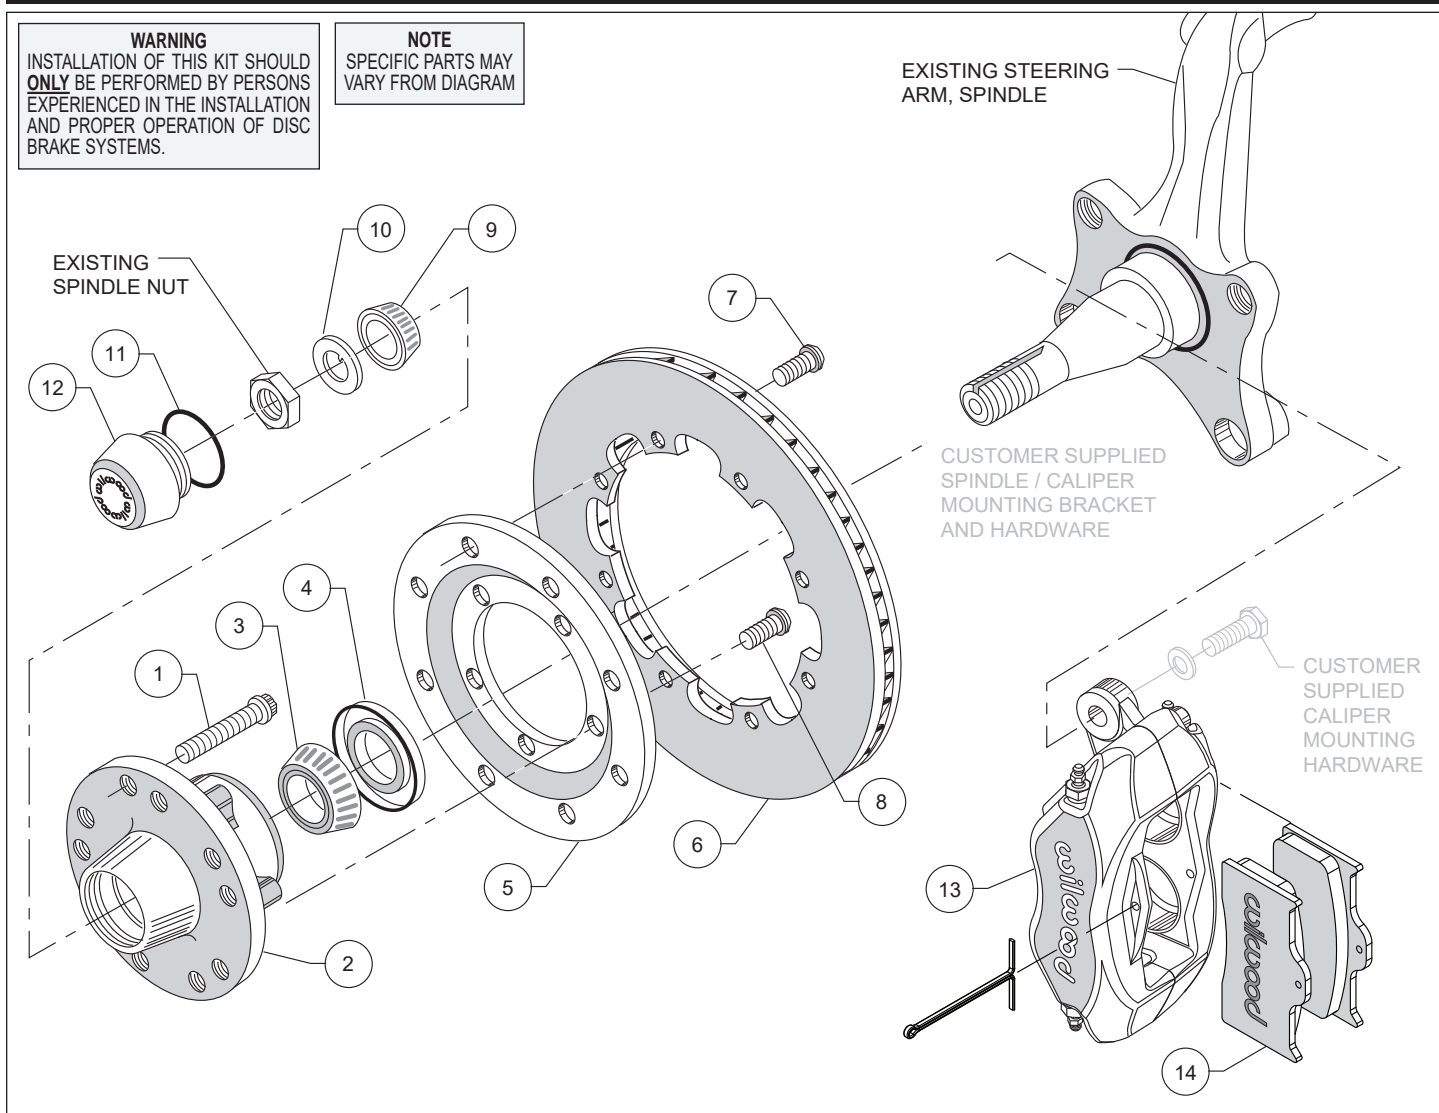

Figure 1. Typical Installation Configuration
Assembly Instructions (numbers in parenthesis refer to the parts list on the preceding page, and Figure 1):
- Install the grease seal (4) by pressing into the backside of the hub (2), flush with the end of the hub, Photo 2.
- Orient the rotor (6) and the rotor adapter (5) as shown in Figure 1 and Photo 3. Attach the rotor to the adapter using bolts (7). Using an alternating sequence, apply red *Loctite*® 271 to the threads, and torque to 25 ft-lb.
- Mount the adapter/rotor assembly (5/6) to the hub (2) using bolts (8), as shown in Figure 1 and Photo 4. Using an alternating sequence, apply red *Loctite*® 271 to the threads, and torque to 45 ft-lb.
- Mount the caliper (13) onto the customer supplied caliper bracket using customer supplied hardware. Temporarily tighten mount bolts. View the rotor (6) through the top of the caliper (13). The rotor should be centered in the caliper, Photo 7. If not, adjust by adding or subtracting customer supplied shims between the bracket and the caliper. Always use the same amount of shims on each of the two mounting bolts. Once the caliper alignment is correct, remove the bolts one at a time, apply red *Loctite*® 271 to bolt threads, and torque to bracket manufacturer's specification.
- Insert the brake pads (14) into the caliper with the friction material facing the rotor (6), as shown in Figure 1 and Photo 8. Secure the pads in place using the cotter pin, Photo 8.